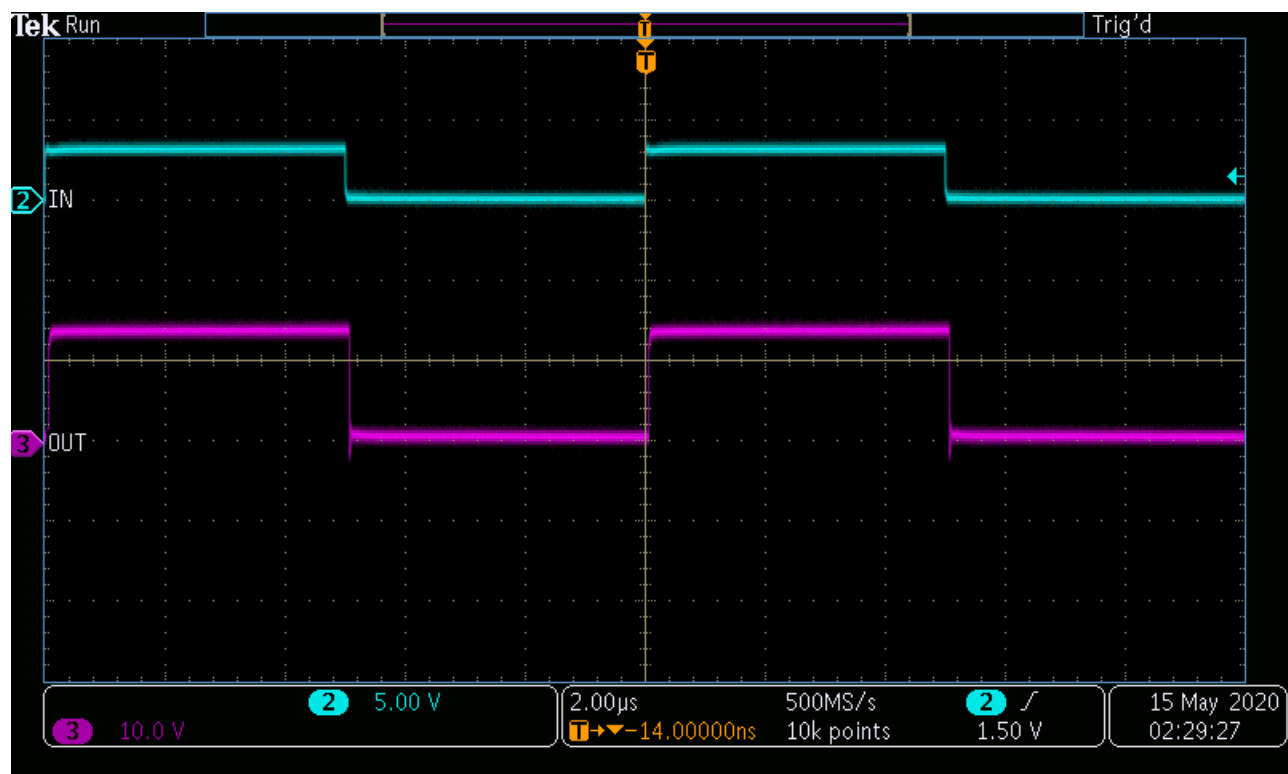

Figure 8. Example Input and Output Waveforms (Ch2 is PWM Input, Ch3 is Output)
1. Before proceeding to the power up procedure, make sure that Section 4.3.6 is implemented for setting up all the equipment. Figure 8 can be used as reference.
1. Stable pulse output on the channel-A and channel-B in the oscilloscope. See Figure 8.